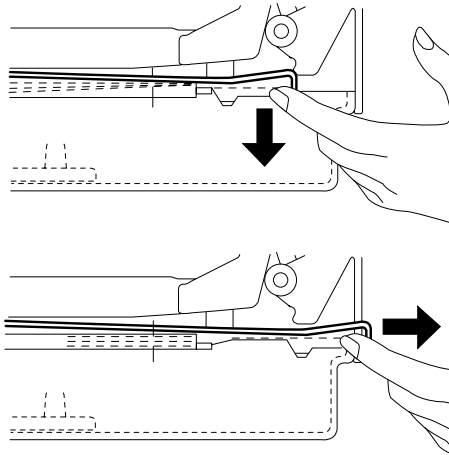

Fig. 9.2 Remove Top Tray of Cassette Slot
3. Remove the manual-feed platform by lifting it up and forward at the front until it drops out (fig. 9.2).